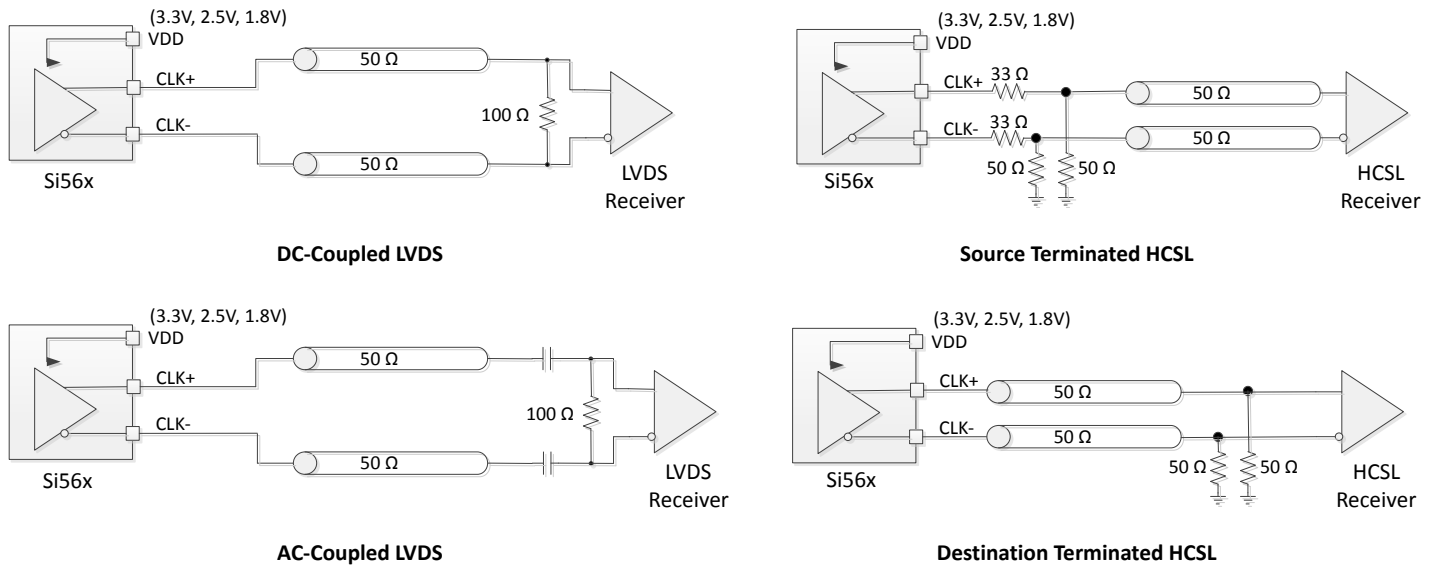

Figure 4.2. LVDS and HCSL Output Terminations
4. R_{term} = 100 Ω (differential) (see Figure 4.2).
5. R_{term} = 50 Ω to GND (see Figure 4.2).